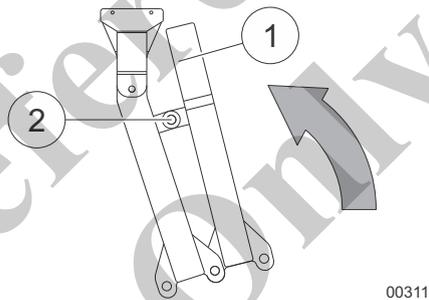

Fig. 129 Folding in and bolting the ramp
- 21 Fold in the ramp (1) in Fig. 129 and secure it with the bolt (2) in Fig. 129 at the position shown.